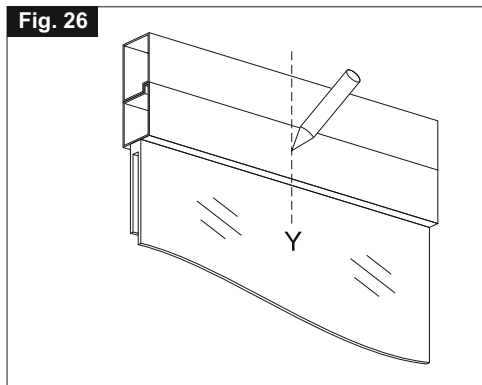

Fig. 27
- 3) **Fig. 27-** Align to the centre line the bracket connecting it to the window frame using as reference the centre line indicator (**Ref. 1**) located in the centre of the same positioning the bracket at a height of 39 mm from the frame and mark the drilling points on the frame;